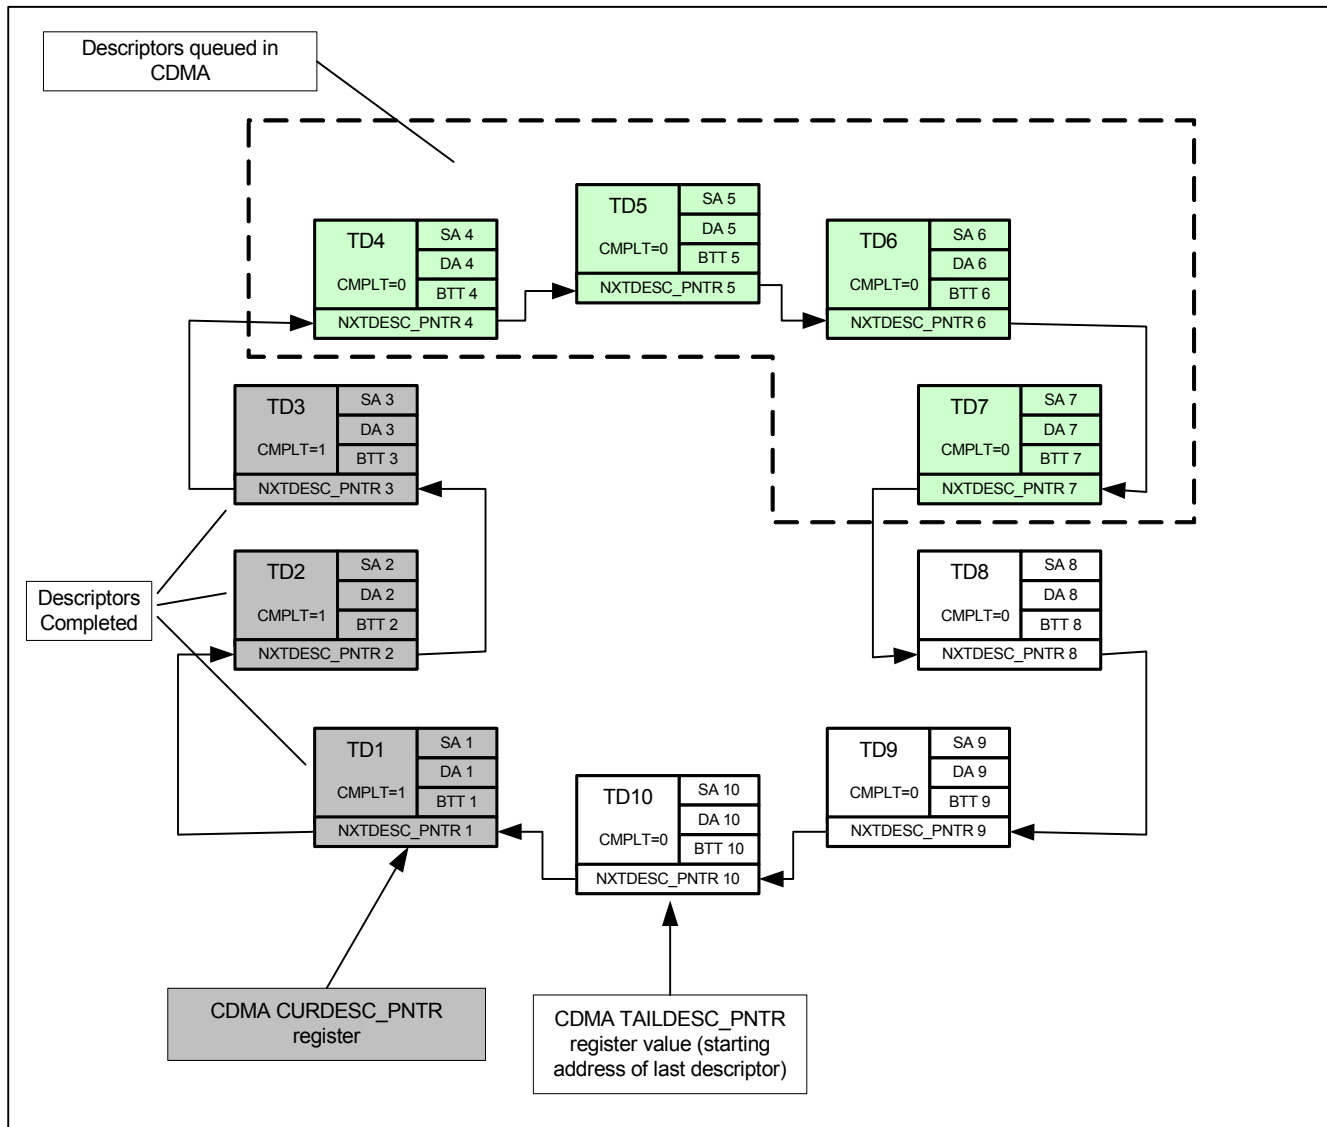

Figure 18: Continued Execution
- When the DMA transfer associated with a descriptor is finished by the CDMA DataMover function, the status of the transfer is scored by the CDMA SG function and then written into the STATUS word of the associated descriptor in system memory. The updated STATUS word also has the Cmplt bit set to 1 indicating the CDMA has completed processing of the descriptor. This is shown in Figure 18.